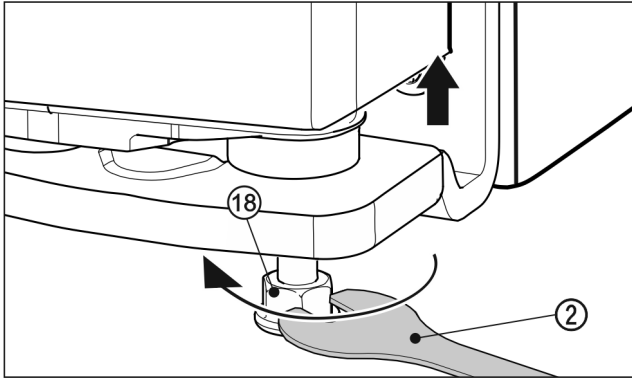

Fig. 21
- To lift the door, unscrew the adjusting foot Fig. 21 (18) clockwise using the supplied open-ended spanner Fig. 21 (2) until the foot makes contact with the floor. Then continue turning until the door is adjusted to the right height. When delivered, the bearing pin is completely screwed in.